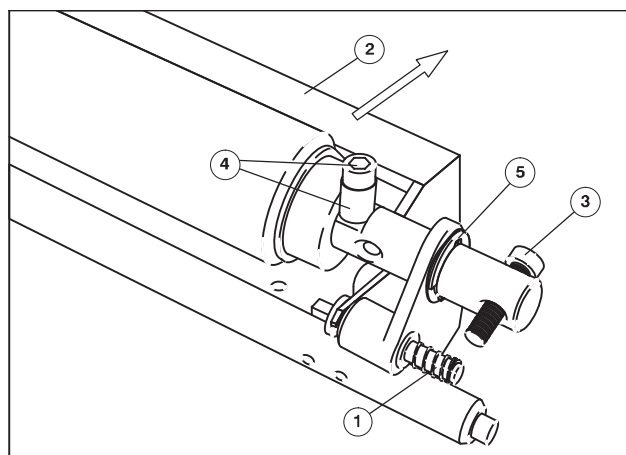

Fig. 58 Replacing washup roller
2. Press in the pin on D.S. (Fig. 58/1) and O.S.
3. Press away the washing fluid trough (Fig. 58/2) in the direction of the arrow.
4. Completely unscrew screw on D.S. (Fig. 58/3).
5. Remove screw on D.S. (Fig. 58/4) and O.S. together with the bush.
6. Remove circlip on D.S. (Fig. 58/5).